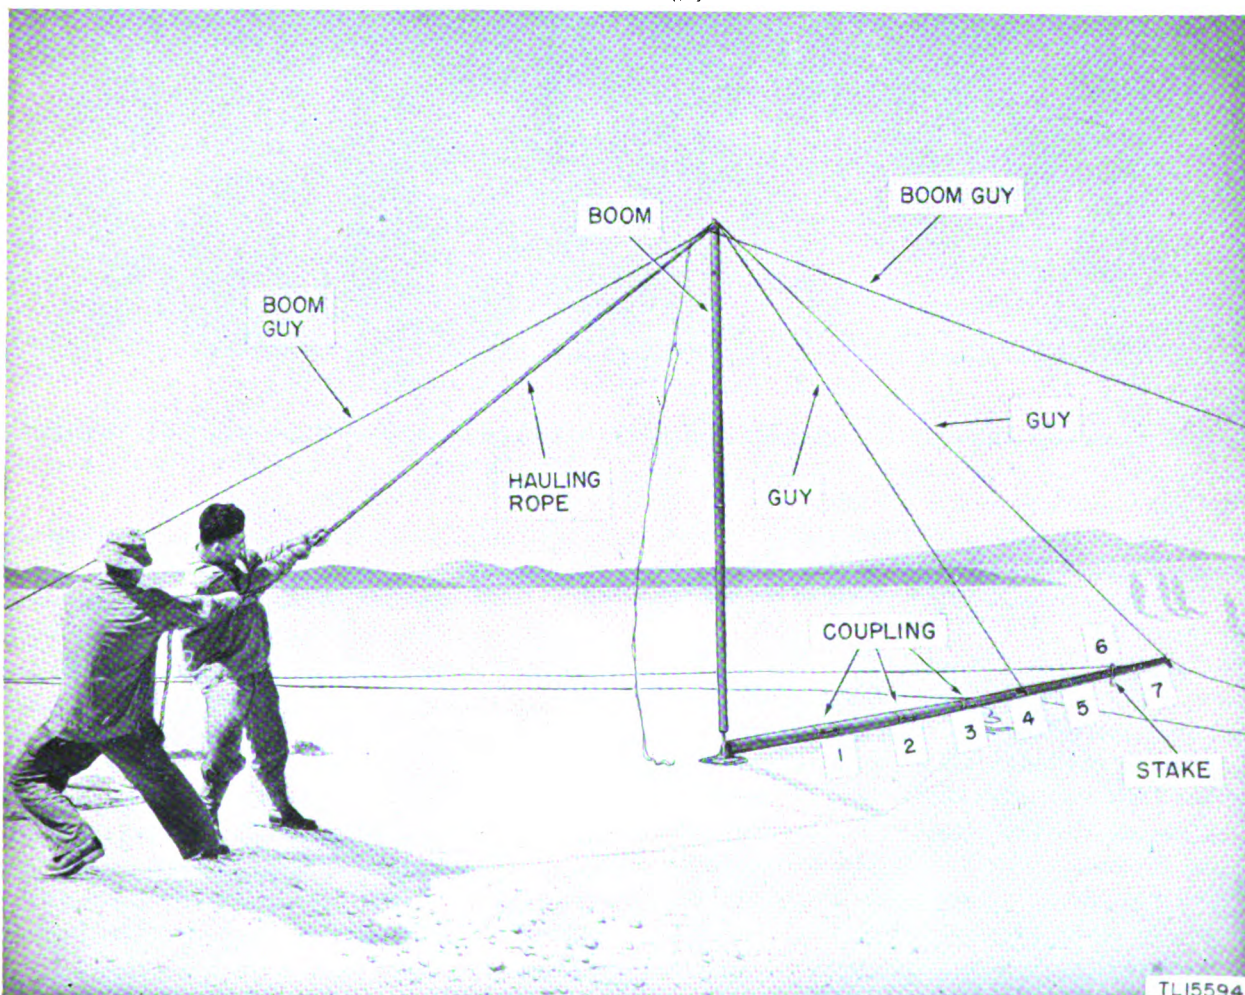

Figure 17. Raising the boom to a vertical position.
- (1) Check all guys to make certain they are all free and clear.
- (2) Raise the boom to a vertical position.
- (3) Using at least two men, pull on the $\frac{1}{2}$ -inch hauling rope attached to the boom (fig. 17).
(4) The mast should start leaving the ground at the mast head. When the mast head is about 1 foot from the ground, the middle coupling should be leaving the ground. The mast in this position will sag between these two points (fig. 17). If this condition does not occur, release the hauling rope and readjust the position of the boom attachment ring on one of the guy ropes and try again for the above condition.